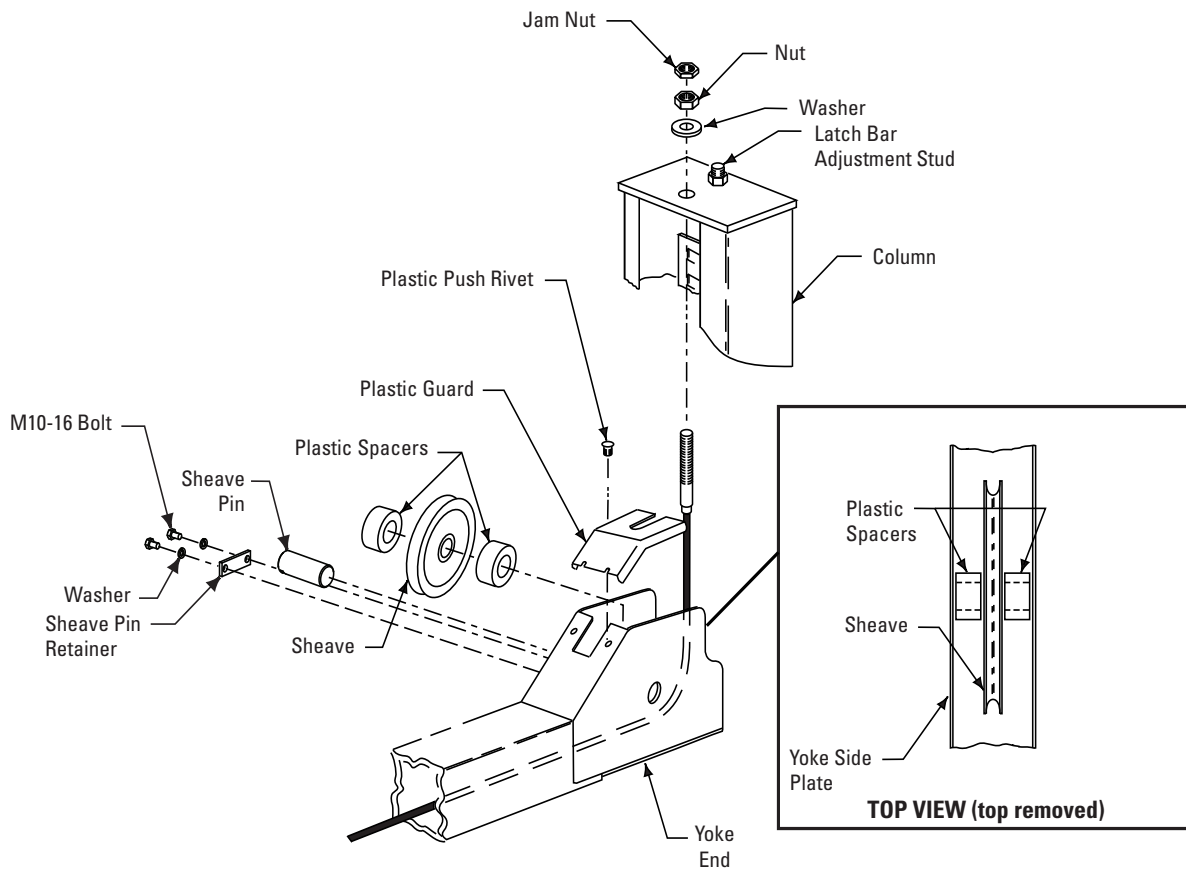

Fig. 8
- B. Retain sheave pin with (2) M10-16 bolts and sheave pin retainer. Attach each cable to column top plate with spacer, nut, and jam nut, Fig. 8. Install plastic sheave guard on each yoke end, Fig. 8. Roping diagram shows a view of completed roping, Fig. 9.
- F. Install yoke end sheaves and plastic spacers, Fig. 8. A plastic spacer is placed on each side of the sheave, inset Fig. 8.
Adjust cable with lift fully lowered. Loosen jam nut and tighten nut on cable stud on top of column until yoke end raises 1/4" (6mm). Back off nut one turn. Retighten jam nut. Repeat for all four cables. Refer to Fig. 8.